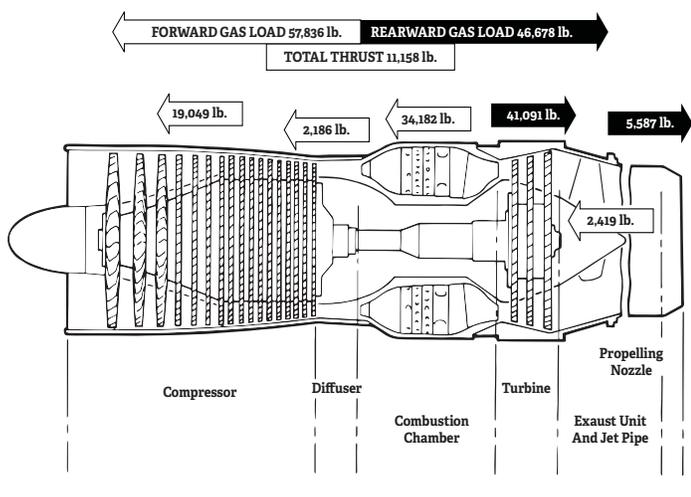

Figure 2. Thrust distribution for a single spool turbojet engine [4].
An excellent example of such an analysis is given in the very informative Rolls-Royce publication, *The Jet Engine* [4]. As shown in Fig. 2, the Rolls-Royce example consists of a single spool axial flow turbojet which has a net thrust of 11,158 pounds thrust (lbt), acting to left, for forward flight. (For comparison, most turbofan engines are in the 20,000-30,000 lbt range for single-aisle airliners, and in the 100,000 lbt range for larger airliners.)
The thrust values for each component in the Rolls-Royce single spool engine are shown in Fig. 2. The values (see [4] for details) are calculated from Eq. (1), where the mass
flow rate, flow areas and pressures are given for each component, and mean one-dimensional flow is assumed in the gas path. Following Fig. 2, an inlet-to-exit analysis yields the following:
1. As shown in Fig. 2, the single spool compressor, with a compression ratio of 7.4, yields a forward thrust of 19,049 lbt (171% of net thrust of 11,158 lbt).
I invite the reader to sum up the individual component contributions given in Fig. 2 and in items 1-6 above, to yield the net thrust of 11,158 lbt for this Rolls-Royce single spool engine. Newton's 2nd Law of Motion allows us to examine engine component behavior that exhibit both forward and rearward propelling forces, which results in the net thrust our airline passengers have purchased.